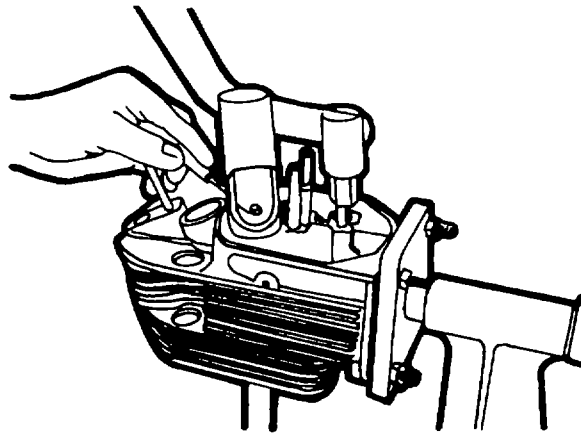

Figure 5-70. Cylinder Head Bolted to Swivel Clamping Stand
- a. Bolt the cylinder to the swivel clamping stand (figure 5-70). Dismantle both valves with springs, valve rotator, and washer (use clamping stand No.003-0562 with plate No. 003-0794 and valve spring compressor No. 003-0504).